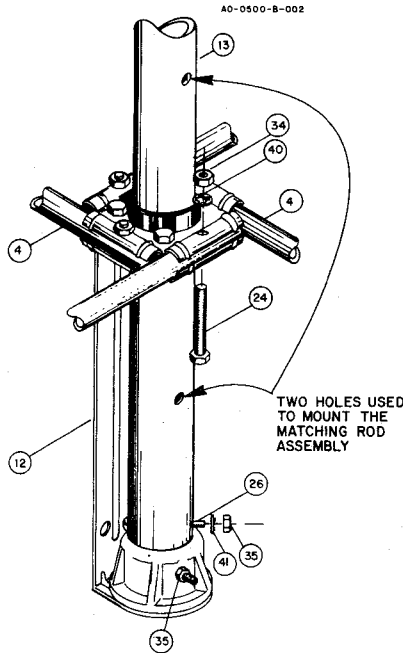
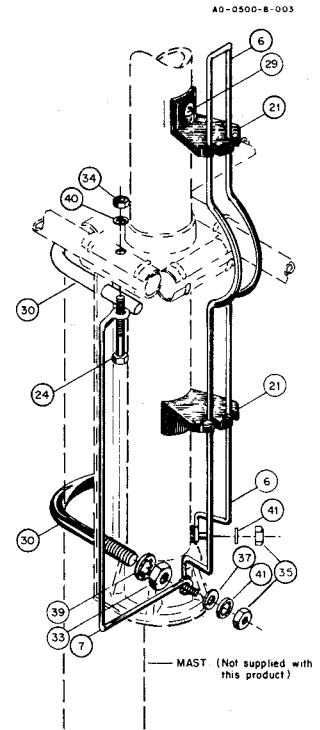

Figure 2
Figure 3
**NOTE:** Make certain the end of the M1 assembly (Item 13), which contains two holes, is orientated with the holes down to align with the holes in the insulator (see Figure 2). Remember to point the two smaller holes (located 5  $\frac{5}{8}$ " and 13" from the bottom end) away from the base bracket. These will be used to attach the matching rod assembly (see Figure 3).
Fasten the M1 assembly to the insulator with the #10 x 1  $\frac{3}{4}$ " screw (see Figure 2, Item 26) and associated hardware (Items 35 and 41). Tighten SECURELY.
Referring to Figure 2, assemble the  $\frac{5}{8}$ " x 55" R1 tubes (Item 4) into brackets, align the holes and fasten with  $\frac{1}{4}$ " x 1  $\frac{1}{4}$ " screws, nuts and lockwashers (Items 24, 34 & 40). Do not tighten nuts.
Remove the two rod support insulators (Item 21) and the two #10 x  $\frac{5}{8}$ " Type T screws (Item 29) from the parts pack and attach them to the M1 assembly as shown in Figure 3.
Attach the matching rod and beta rod exactly as shown in Figure 3.
Loosely assemble the  $\frac{5}{16}$ " U-bolts on the bracket as shown in Figure 3.